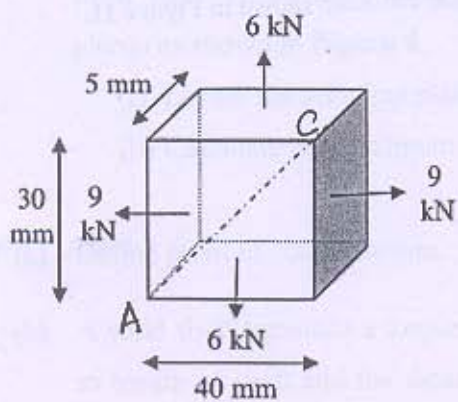

Figure 3
- (a) A small block 40 mm long $\times$ 30 mm high and 5 mm thick is subjected to uniformly distributed tensile forces having the resultant values shown in Figure 3. Compute the stress component developed along the diagonal AC.